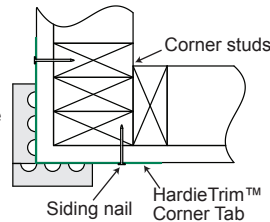

Figure 5
- For wood frame construction, attach trim to building using min. 6d siding nails fastened through the HardieTrim Corner Tabs attached to minimum 7/16" OSB *. (Figure 5)